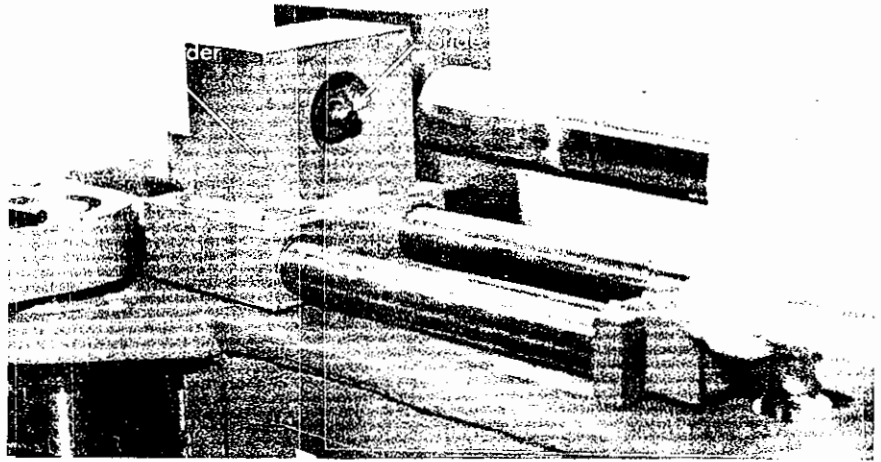

Figure 11
3. Remove the screw that connects the die carriage to the end of the cylinder ram and slide the dye carriage forward (Fig. 11). NOTE: Do not lose die spring which is located between end of ram and carrier.